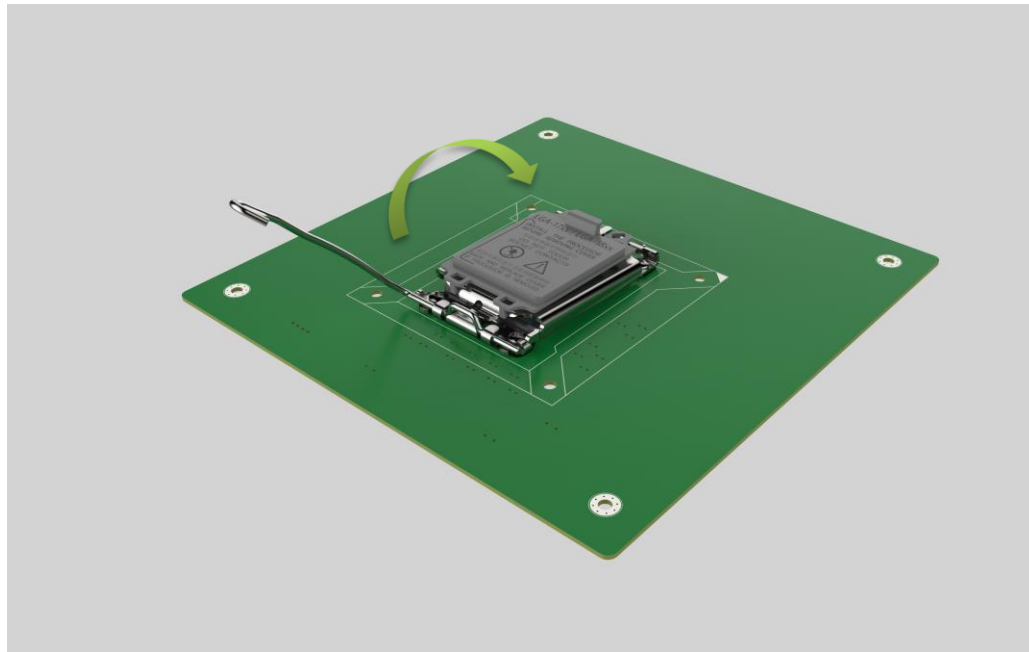

Figure 4-6: Close the Socket LGA1851
**Step 8: Close the CPU socket.** Close the load plate and pull the load lever back a little to have the load plate be able to secure to the knob. Engage the load lever by pushing it back to its original position (**Figure 4-6**). There will be some resistance, but will not require extreme pressure.